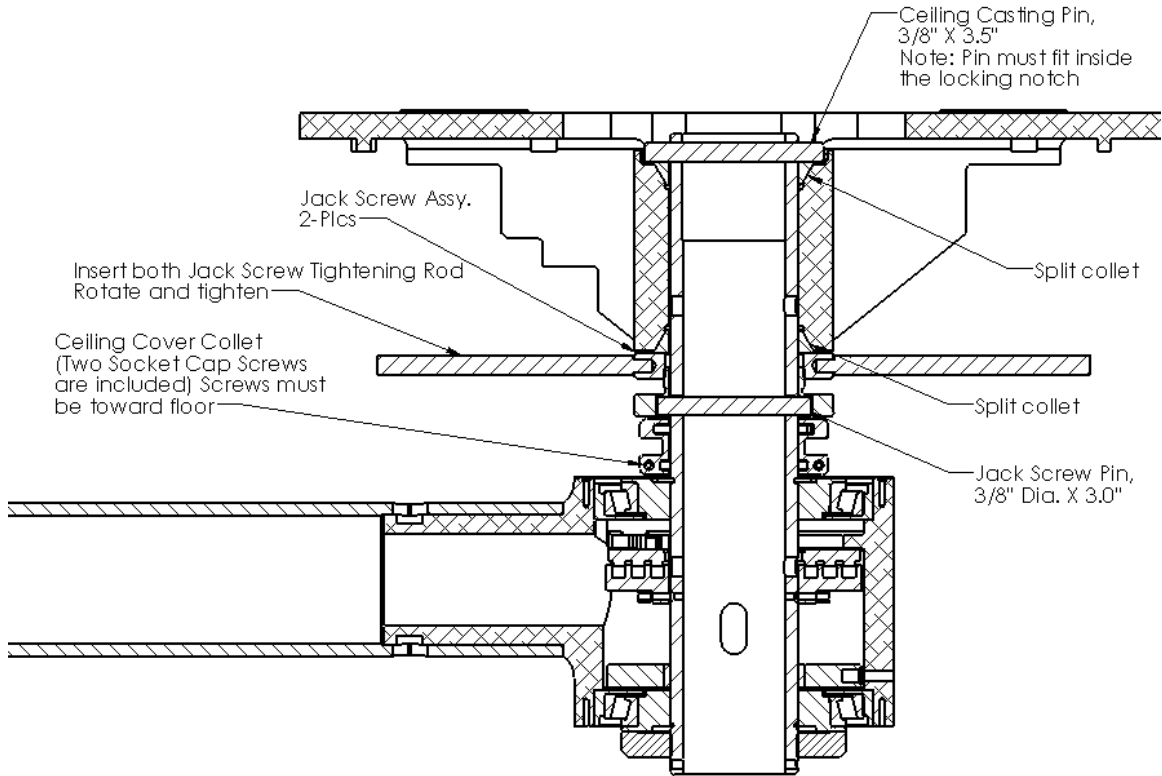

Figure 9. Arm and Ceiling casting assembly
- Remove the two screws from the ceiling collar using the Allen wrench provided in the hardware kit. Install the ceiling collar onto the ceiling shaft, insuring that two screws locations are positioned toward the floor. Tighten the two screws such that the collar does not slip down the rod by itself but can still be moved when pushed by hand. (See Figure 9)